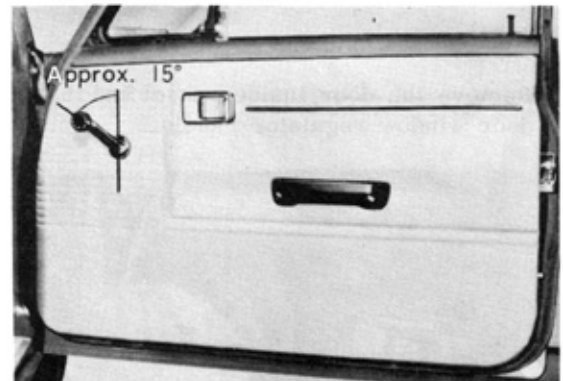

Fig. 1-15 Window Regulator Handle Positioning B 2364
14. Install the door inside handle vessel and then the door window regulator handle so that it will be as illustrated in the Fig. 1-15 on closing the window glass all the way.